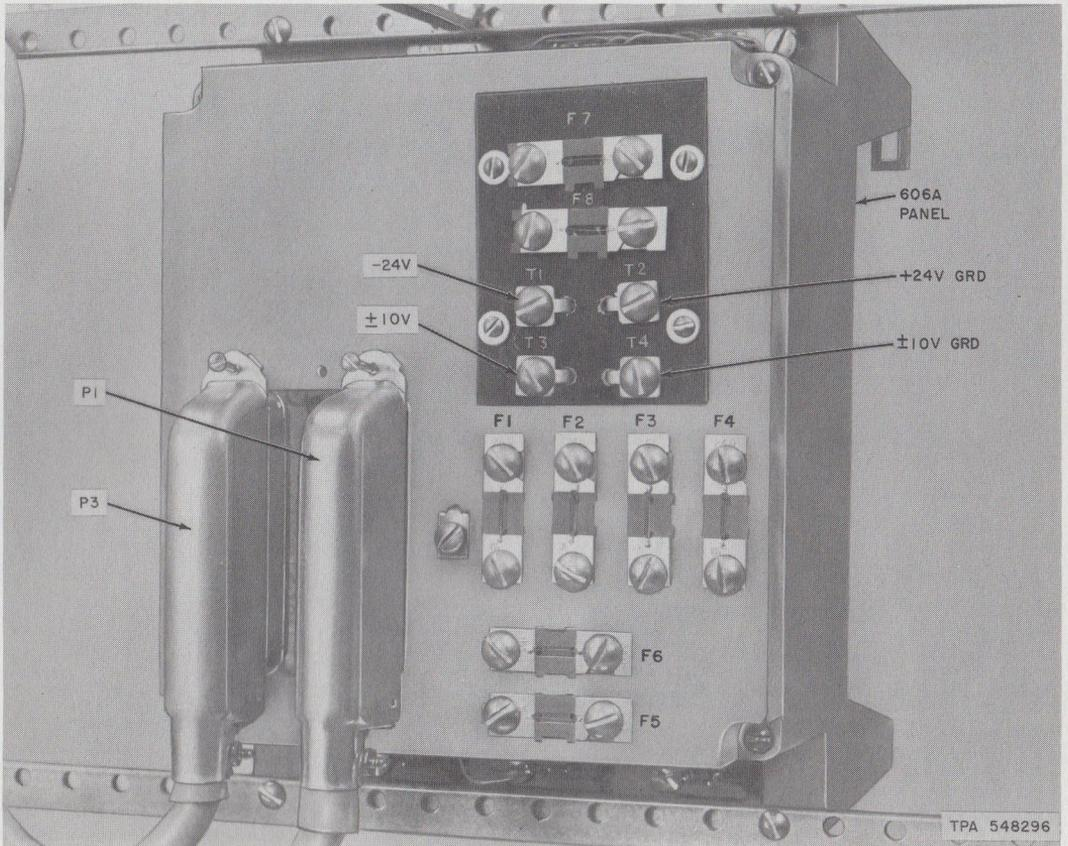

Fig. 5—606A Panel (Rear View)
3.12 Two A25B connector cables are used to connect the 606A panel to the 66B4-25 intermediate connecting block. The A25B connector cables plug into the back (P1 and P3) of the 606A panel (Fig. 5).
606A PANEL (SEE FIG. 5).
3.18 Power supply (supplied locally, if required) connects to the rear of the 606A panel as shown in Fig. 5. Refer to the appropriate section in Division 518 for proper grounding of power plants.
6.05 Power supply (supplied locally) connects -24V to T1 and GRD to T2 (Fig. 5) on rear of 606A panel. Power supply (supplied locally with fusing) connects to rows 9 and 10 on the 66B4-25 connecting block for the 69H apparatus mountings.